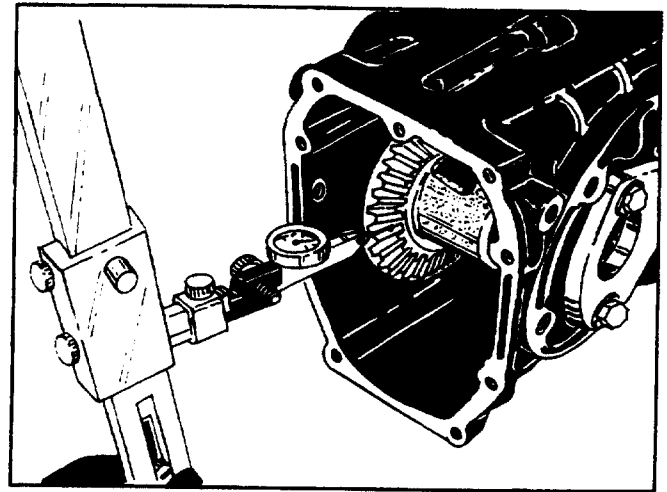

FIGURE 5.
- b. Ring gear to pinion backlash .003" to .008". (Figure 5)